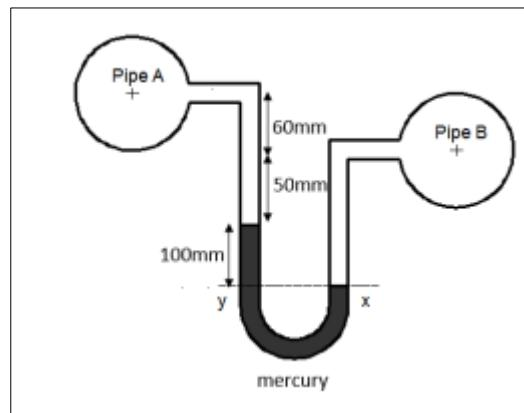

Figure 4(a) / Rajah 4(a)
- CLO2 (a) A differential connected at the two pipe A and B at the same level in a pipe containing an oil of specific gravity 0.8, shows a difference in mercury levels as 100 mm. Based on Figure 4(a), express the difference in pressure at the two pipes.